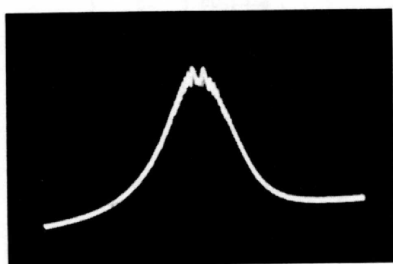

Figure 7. Trace Obtained at Limiter Grid Circuit
4. Connect the vertical input probe of the oscilloscope to test point 1, shown in Figure 6, the Limiter grid circuit. Set the oscilloscope H Selector switch to "Line", and adjust the phase control for a single trace. If the receiver is operating properly, and the IF transformers are correctly aligned, the trace should appear similar to that in Figure 7, below.